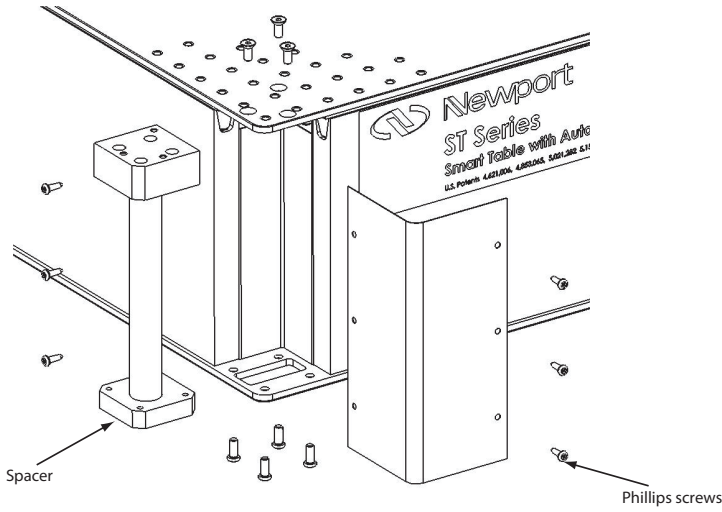

Figure 1: ST-UT or ST-UT2 Series table before IQ damping upgrade
1. Remove the two corner pieces from the table by unscrewing 6 screws from each corner piece (See figure 1 below). Use a Phillips screwdriver to remove the screws.